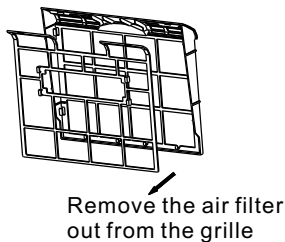

Fig.23
- Remove the plug from the bottom drain outlet, all the water in the bottom tray will drain out (See Fig.23).